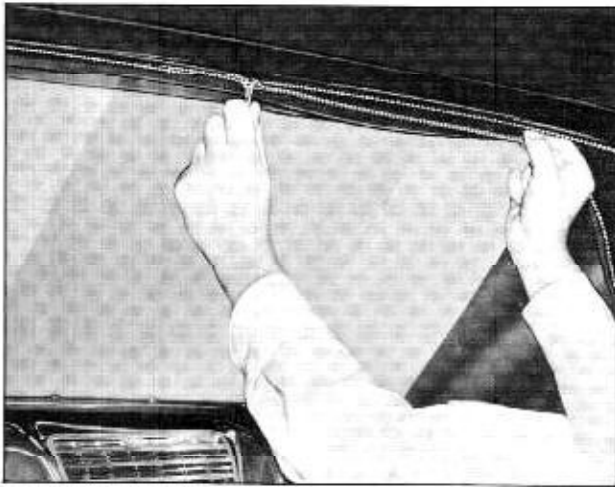

Fig. 15-79 Closing Rear Window
1. Hold window in its approximate closed position; then slide zipper along top of window and down side to its closed position. (Fig. 15-79)